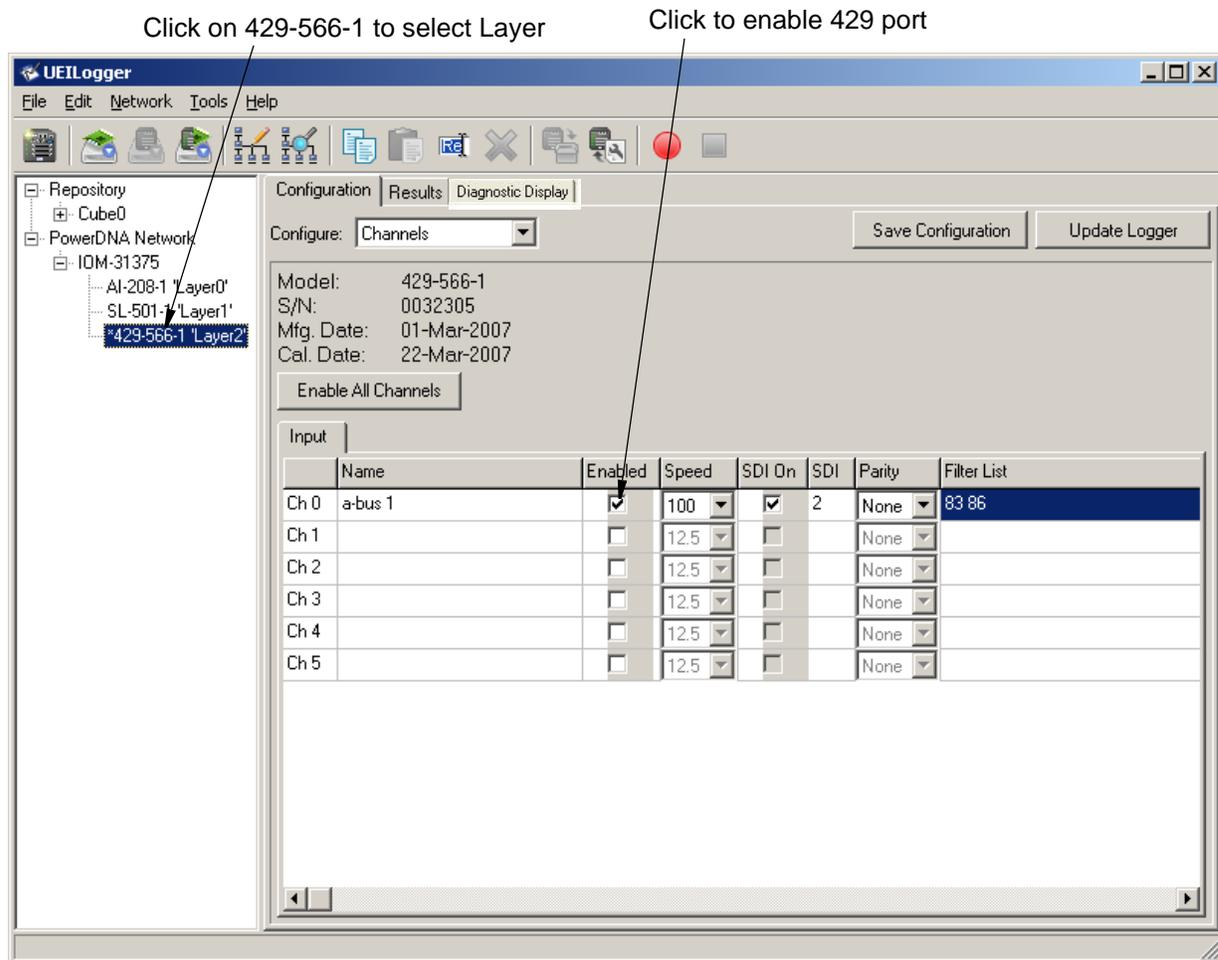

Figure 2-46 Configuring the 429-566 Ports
- STEP 1:** In the left window of the Logger screen, click on the Layer marked 429-566. Then, in the right hand window, click on the *Configuration* tab. In the *Configure* box, pull down the menu and select *Channels*. The screen shown in **Figure 2-46** then appears.
STEP 1: In the left window of the Logger screen, click on the Layer marked 429-512. Then, in the right hand window, click on the *Configuration* tab. In the *Configure* box, pull down the menu and select *Channels*. The screen shown in **Figure 2-46** then appears.